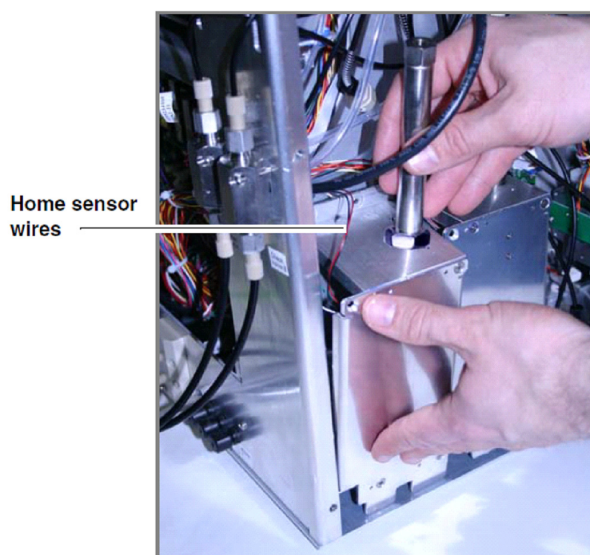

Figure 17: Pump removal
6. Tilt the pump assembly out and lift up to remove, taking care not to damage the wires attached to the pump home sensor (Figure 17).